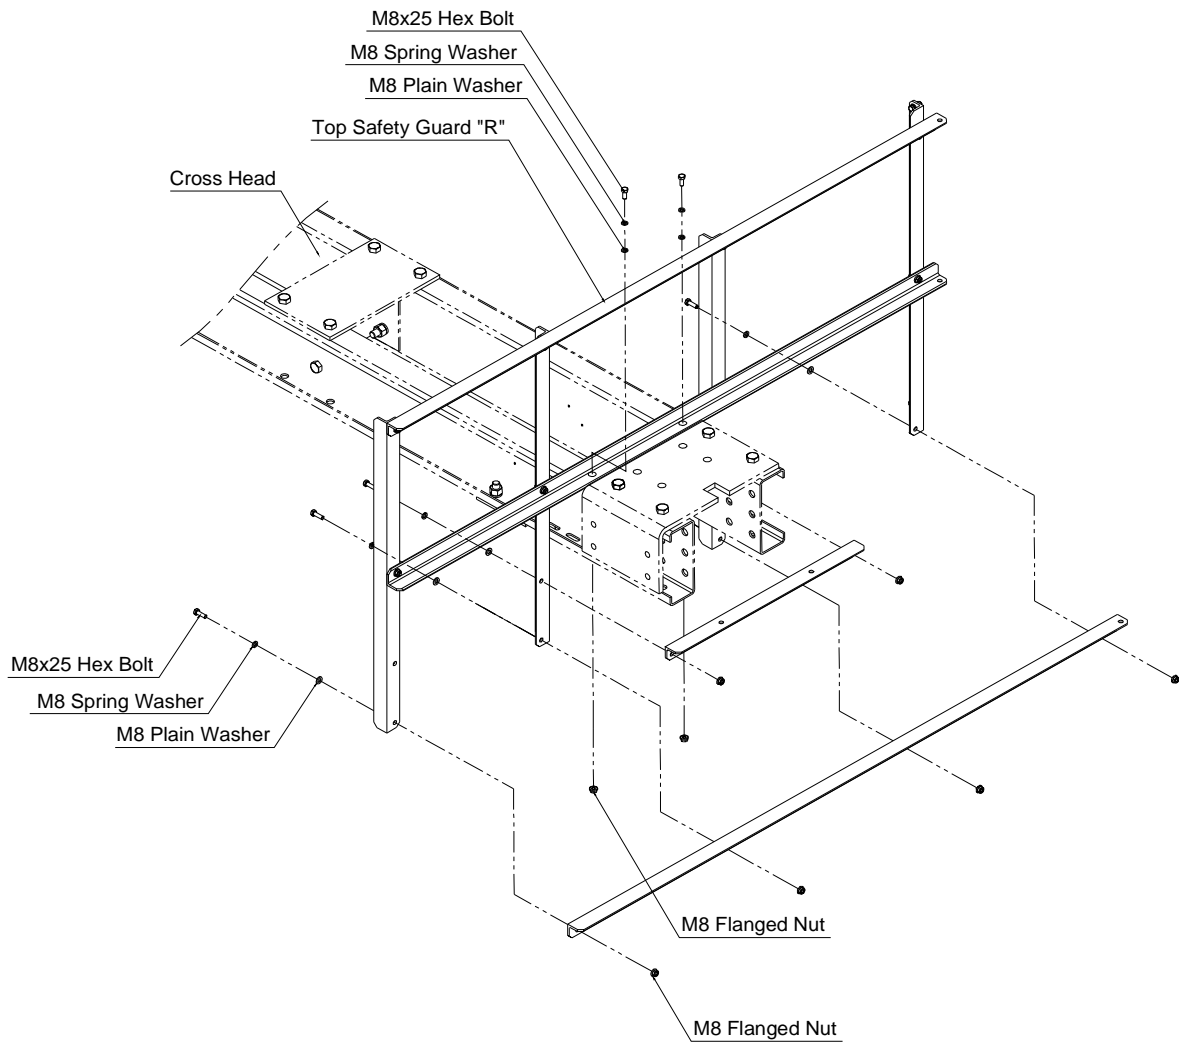

**Fig. 4-1-7-A. CAR TOP SAFETY GUARD (LEFT SIDE) INSTALLATION**
4-1-7. Underslung Skewed type Car Top Safety Guard Assembly (See Fig. 4-1-7.)
(1) Assemble Car Top Safety Guard as shown on Fig. 4-1-7-A, Fig. 4-1-7-B, Fig. 4-1-7-C.